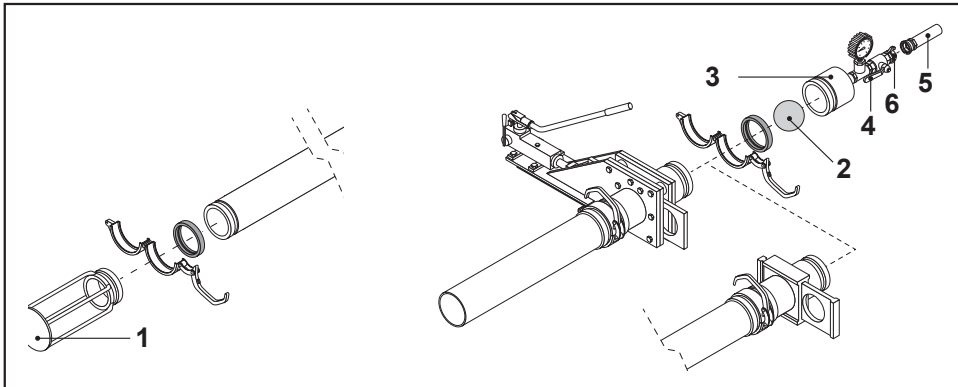

FIG.40
- Connect the basket (FIG. 40-REF. 1) designed to catch the sponge to the end of the hose using a Victaulic coupling complete with rubber gasket.
- At the other end, introduce an adequately-sized pipe sponge (FIG. 40-REF. 2) soaked in water, connect the flushing cap supplied (FIG. 40-REF. 3) and make sure it is well fastened.
- Close the valve (FIG. 40-REF. 4).
- Connect the compressed-air hose (FIG. 40-REF. 5) from the compressor to the quick-release coupling (FIG. 40-REF. 6) on the flushing cap.
- Start the air compressor, open the valve (FIG. 40-REF. 4), pressurize the piping for a few seconds and then close the valve. The slurry will begin to flow out and the pressure shown on the pressure gauge will begin to fall.
- close the valve (FIG. 40-REF. 4)
- disconnect the compressed-air hose from the coupling (FIG. 40-REF. 6)
- open the valve (FIG. 40-REF. 4)